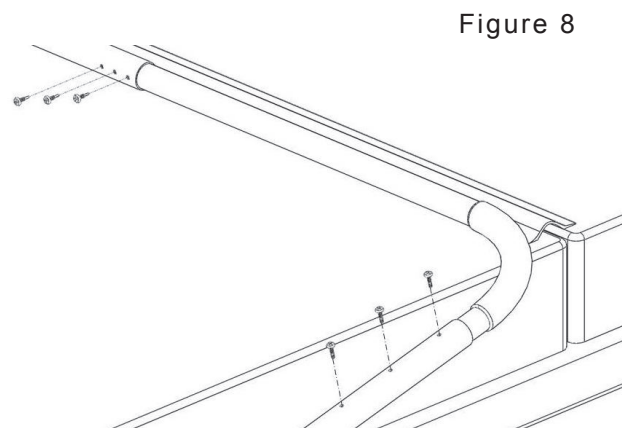

Figure 8
9 Using the **#10 x 5/8" Self Tapping Screws (J)** to fasten the **Support Arms (B)** to the **Pivot Arms (A)** and the **Center Coupler (C)**. See *Figure 8*.